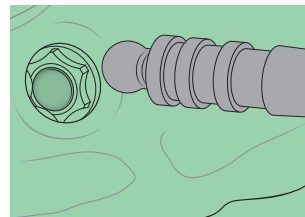

Fig. 7
- (Fig. 7): After the impression material has set (adhere to manufacturer's instructions!), remove the impression tray from the mouth and insert the **Dal-Ro laboratory analogue** into the moulded ball abutment and check that it is seated **correctly**. Instead of the impression of the Dalbo® Certain® Abutment, transfer can be done with the impression coping Pick-Up 4.1 mm. The Certain™ Implant Lab Analogue 4.1 mm and the appropriate Dalbo® Certain® Abutment are needed for model fabrication.